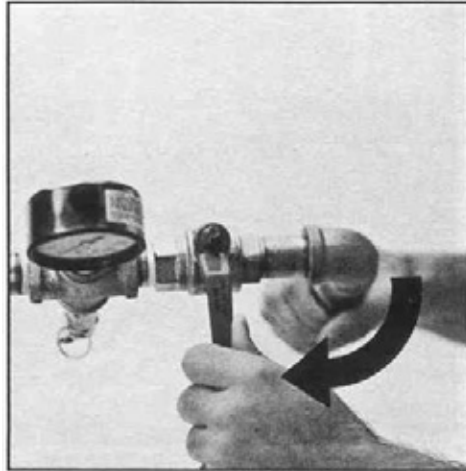

Figure 10: Close Control Valve
11. Turn the control valve to the closed position (see Figure 10). In the closed position, the valve handle will be turned perpendicular to the air flow through the fitting. Close the outlet valve on the air compressor.